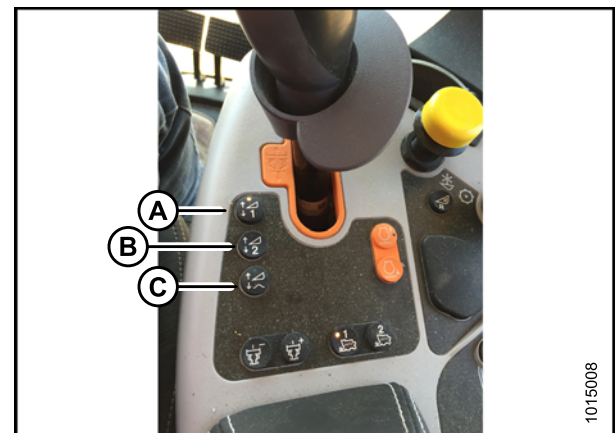

Figure 6.241: New Holland Combine Controls
5. Select one of the auto height set point buttons shown in Figure 6.241: *New Holland Combine Controls, page 255*.